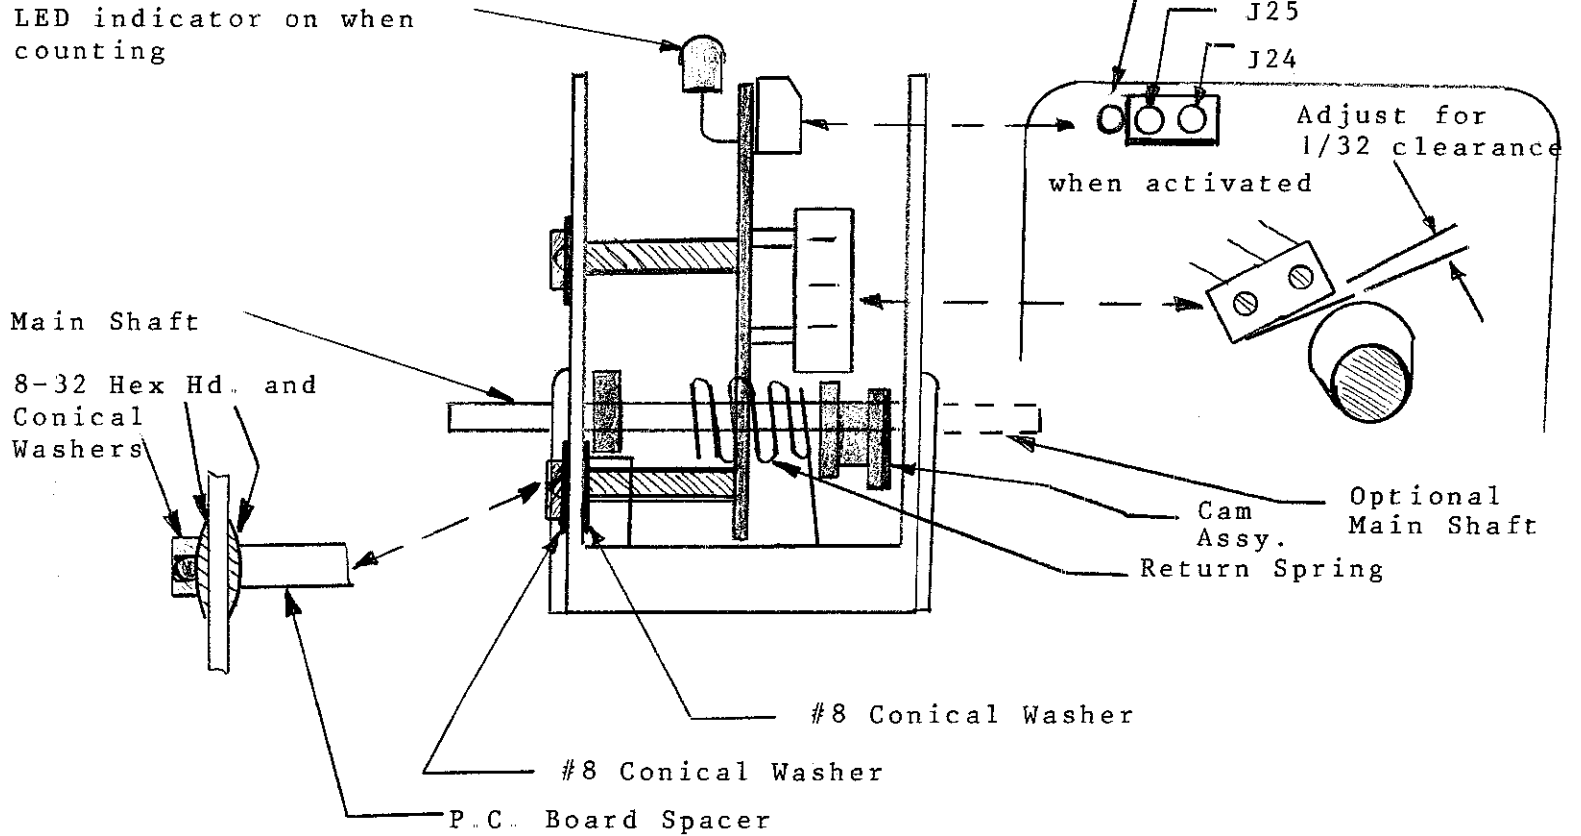

Fig. 1
6. Locate the screws and washers for the ends of both standoffs that mount against box. Note the position and orientation of the conical washers. See Fig. 1.
9. Install a conical washer between the standoff and the housing on the oversize hole as shown in fig. 1. Install an 8-32 Hex Hd screw with conical washer into the standoff. Do not tighten down at this time. See Fig 1 to determine the location and orientation of both washers.
16. With power off and Russell-Stoll plug disconnected, determine which wire goes to J24 and which to J25 and connect as shown in Fig. 1. Use the ty rap supplied as a strain relief between grommet and terminal strip. There is a connection for ground. Some installations have a wire from housing to frame which should be satisfactory. If erratic operation of PR-1 occurs, ground should be added. Connect ground under either screw attaching standoff to counter housing.
There are two test points on the P.C. board. See Fig 1. Using a voltmeter with an input impedance of at least 10 megohms, the battery voltage can be measured from the case to test point. 3.2 to 2.5 should be the correct operating range with 3 v typical.